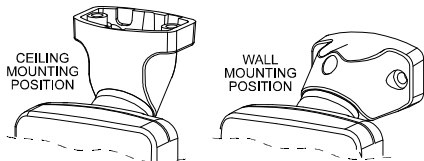

Figure 7. Wall and Ceiling Positions of Bracket
E. Rotate the bracket to the desired position (see Figure 7) but do not yet tighten the screw fully.